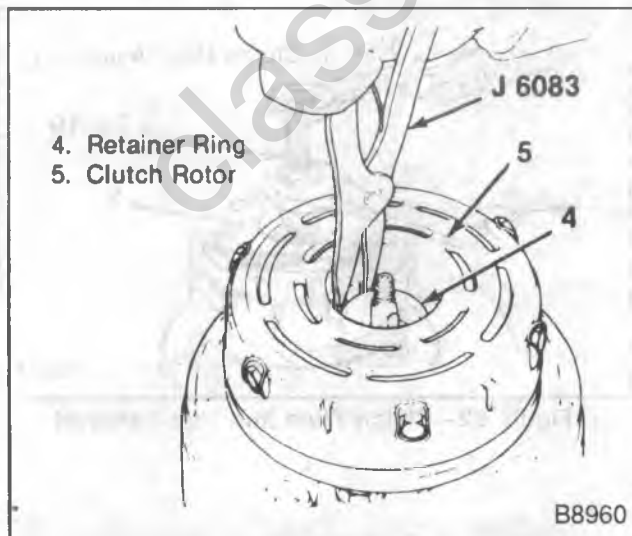

Figure 95—Removing the Retaining Ring
1. Clutch drive hub (3).
2. Snap ring (4) with J 6083 (figure 95).
3. Rotor (6) and bearing (5) assembly.
2. Retaining ring (4) with J 6083 (figure 95).